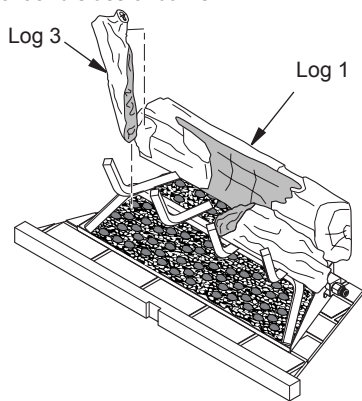

Figure 26 - Installing Log 3
3. Rest front of log 3 between first two grate fingers on left of grate assembly and rear of log 3 into notch on left front of log 1 (see Figure 26).